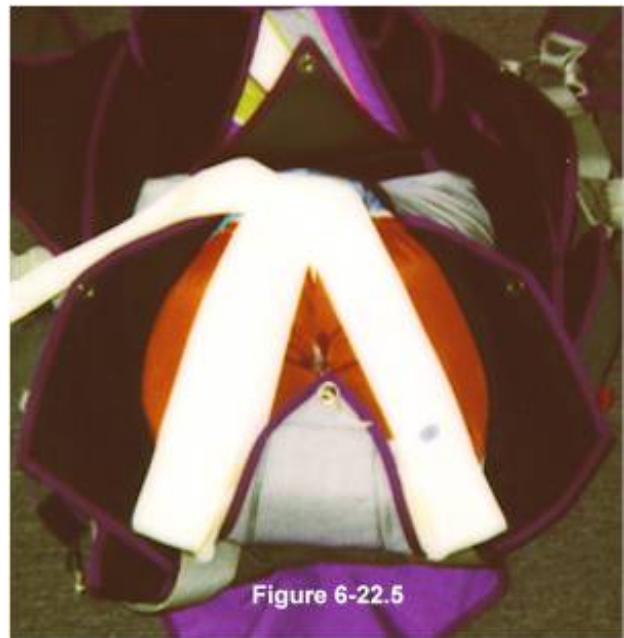

Figure 6-22.5
Step 21 "V" fold the bridle from the reserve container upper corner down to the container center as shown in *Figure 6-22.5*.